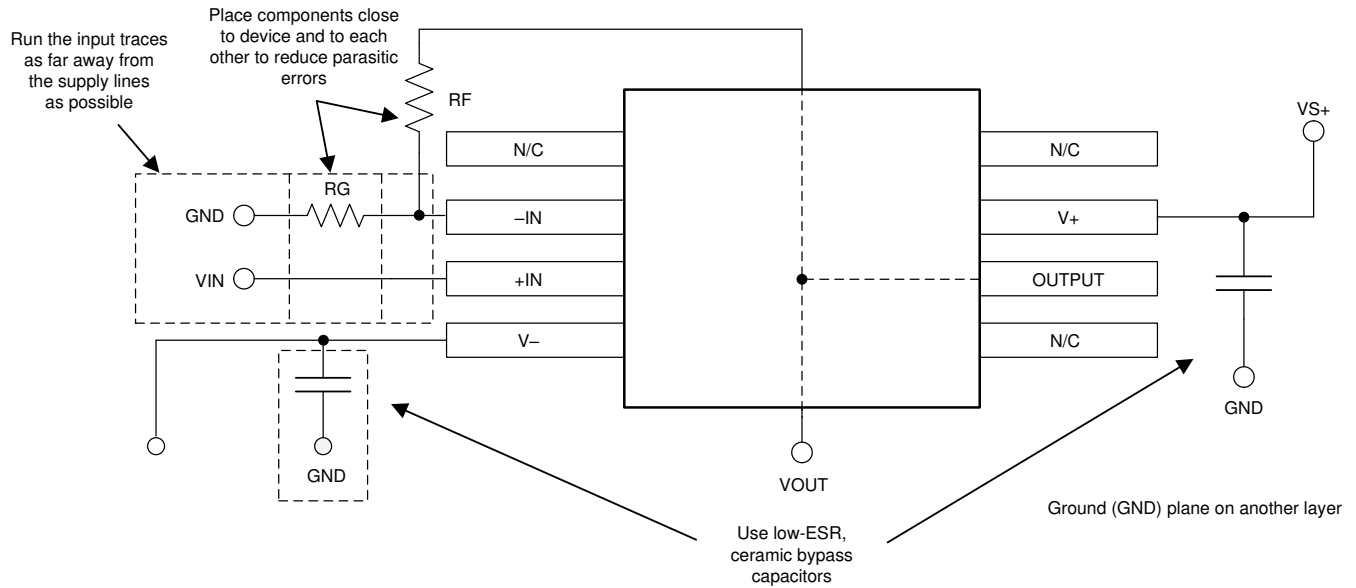

图 10-2. Operational Amplifier Board Layout for Noninverting Configuration
- Place the external components as close as possible to the device. As illustrated in 图 10-2, keep RF and RG close to the inverting input to minimize parasitic capacitance.